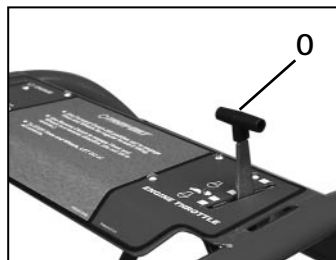

Figure 2-13: Attach engine throttle lever.
2. Insert the Throttle Lever (O, Figure 2-13) up through the slot in the control panel that is labeled "ENGINE THROTTLE."
4. Using a board, tap the "T" shaped knob securely onto the lever (see Figure 2-13).